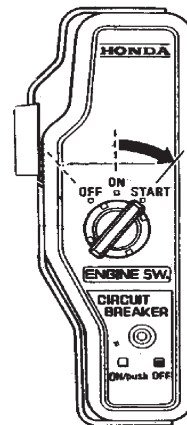

Figure 24. Engine Ignition Switch (Start Position)
- Place the **Engine ON/OFF switch** (Figure 24) to the "START" position. Hold until engine starts.